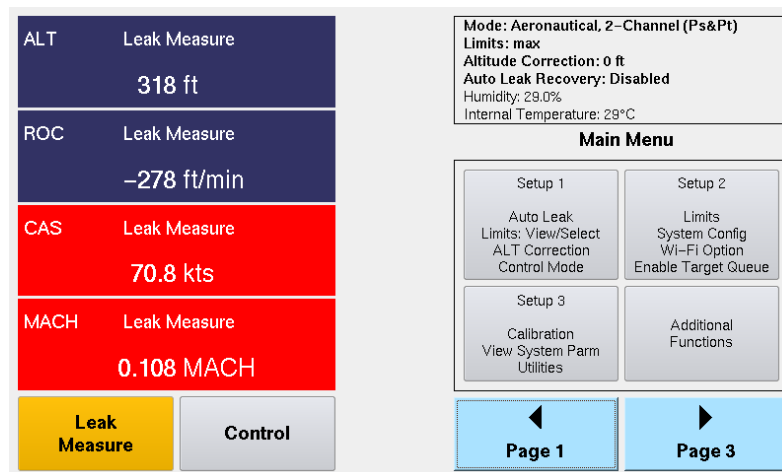

Figure H. 2 Main Menu, Page 2
5. From the "Main Menu", touch "Page 2". A screen is displayed with 4 options (Fig. H. 2).